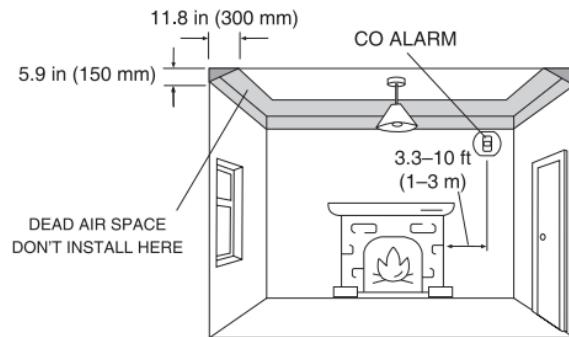
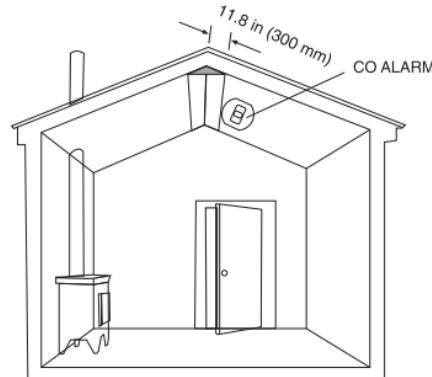

Figure 1: Installation in a room with a fuel-burning appliance
Figure 2: In rooms with sloped ceilings, the CO alarm should be located at the high side of the room
### 1. Installing a CO Alarm in a Room with a Fuel-Burning Appliance (See Figure 1 and Figure 2):
- In rooms with sloped ceilings, the CO alarm should be located at the high side of the room (see Figure 2).